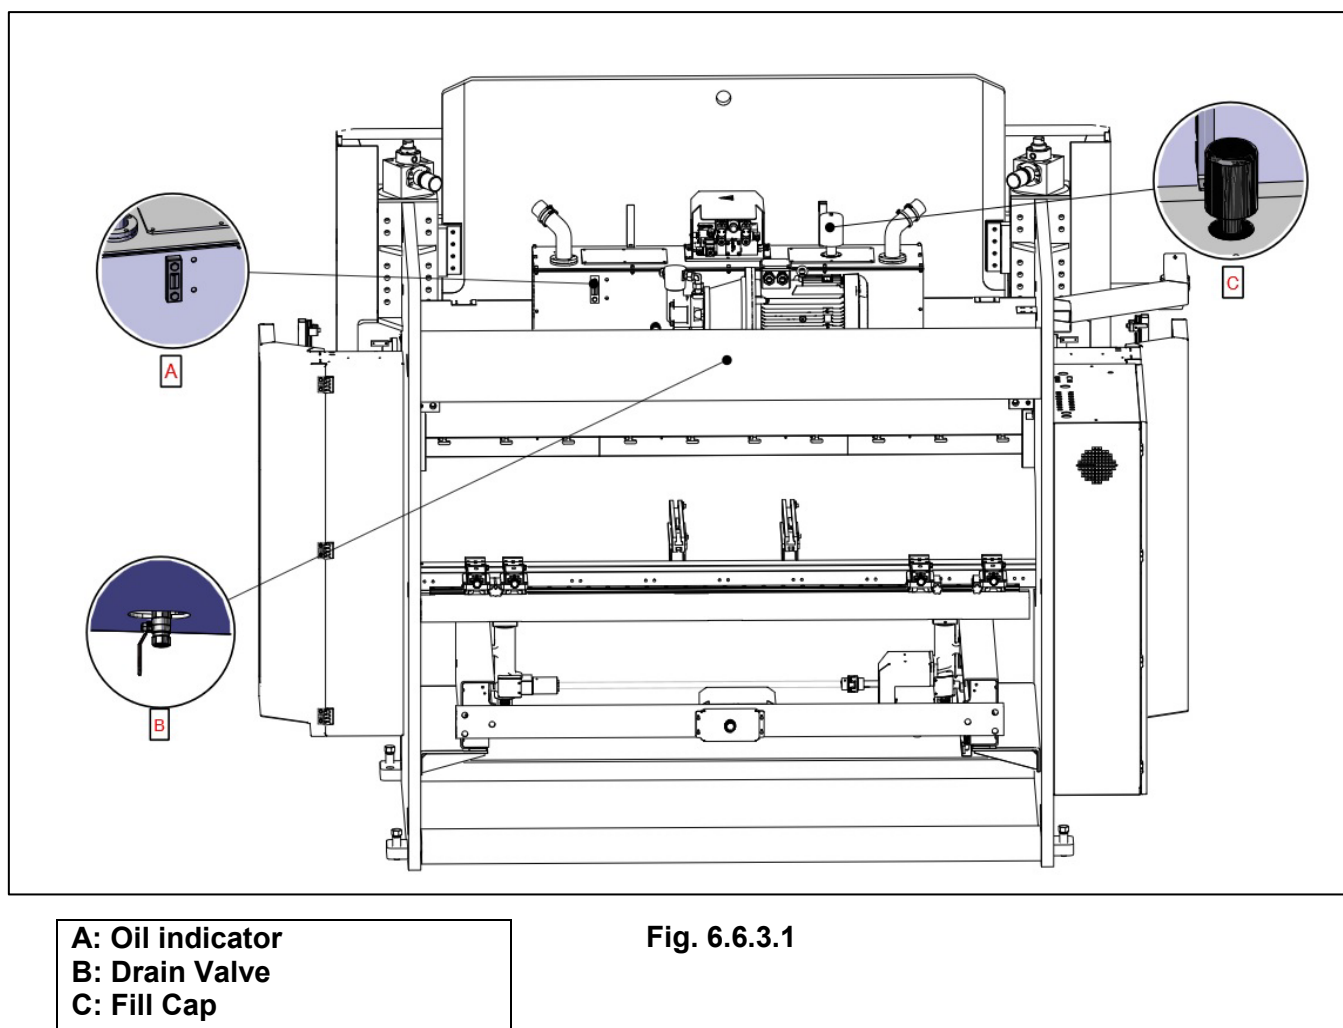

Fig. 6.6.3.1
The oil must be changed for the first time after 2000 operating hours and then every 4000-6000 hours. (See **LUBRICATION INSTRUCTIONS** and **Figure 6.6.3.1**)
- Open the tank cap on the oil tank. (**Abb.6.6.3.1 -C-**)
- Connect a discharge hose to the drain valve and drain the old oil into a suitable oil barrel. (**Abb.6.6.3.1 -B-**)
- Use an oil pump to fill the oil tank up to the middle of the upper oil indicator. (**Abb.6.6.3.1 -A-**)